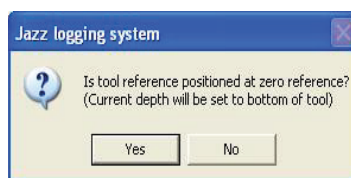

Figure 3.13 – Tool zero confirmation
- Click the **Zero Tool** button. A message unit asking you for a confirmation that the tool's zero referencing point lines up with the borehole zero reference point pops up (Figure 3.13).